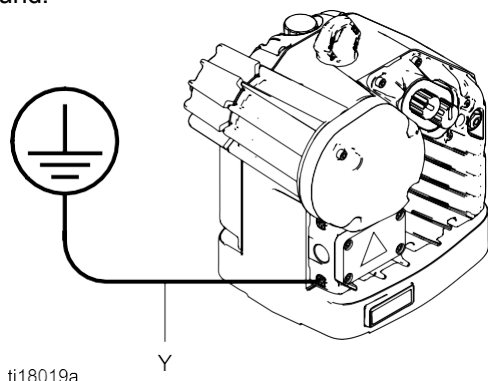

Figure 5 Ground Wire
2. Connect a ground wire as shown in Fig. 5. Loosen the ground screw and attach a ground wire (Y, Graco part 222011, not supplied). Tighten the ground screw securely. Connect the other end of the ground wire to a true earth ground.